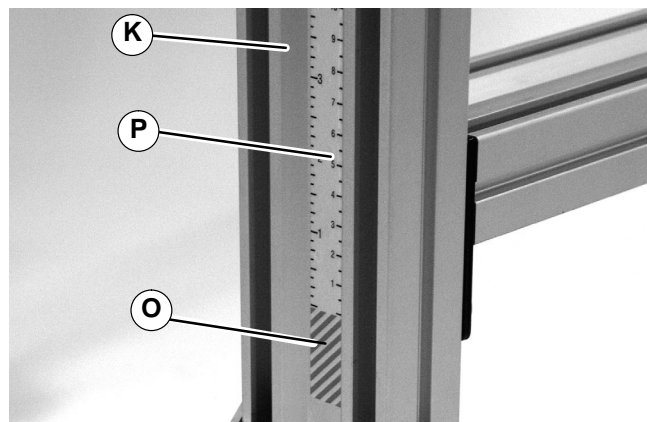

**Figure 2**
1. Typical components (Figure 2).
2. Open standard stand hardware pack (I of Figure 2).